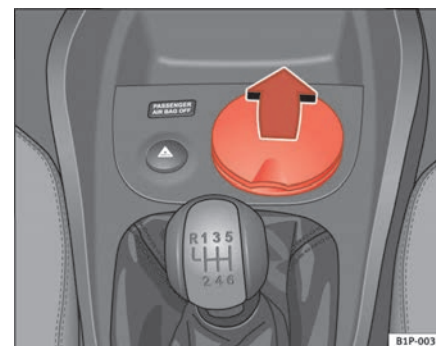

Fig. 99 Ashtray located in the front drinks holder
- To open the ashtray, lift the cover ⇒ fig. 99.